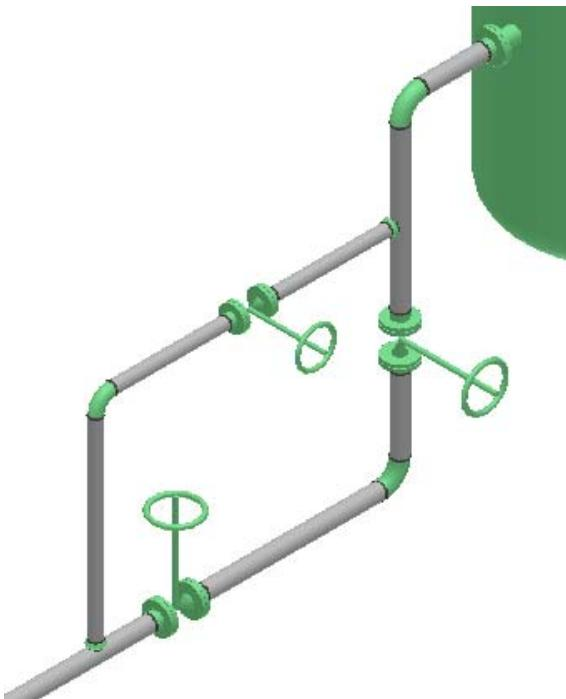

Figure 40: Placed Gate Valves
22. Repeat the above steps to place two gate valves, as shown in Figure 40.